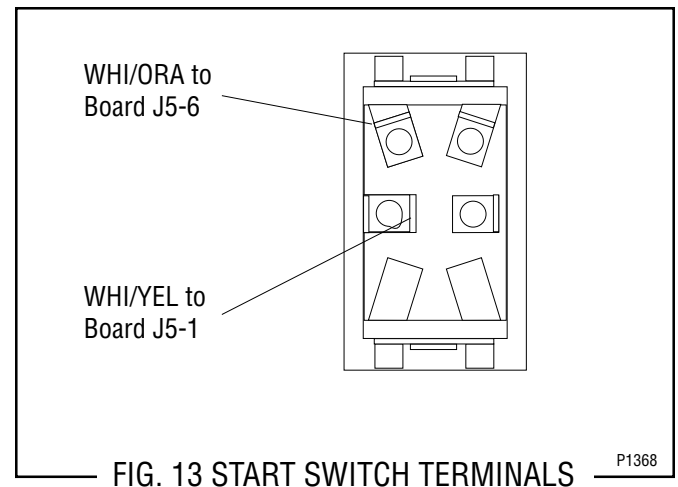

FIG. 13 START SWITCH TERMINALS
4. Refer to Fig. 13 when reconnecting the wires.